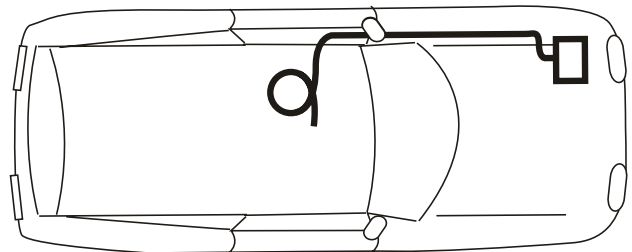

Figure 12-2
- 3. Run the vehicle harness under and, when possible, through the vehicle back to the rear cargo area/trunk,** gaining entry into the vehicle through the firewall. [Figure 12-2]